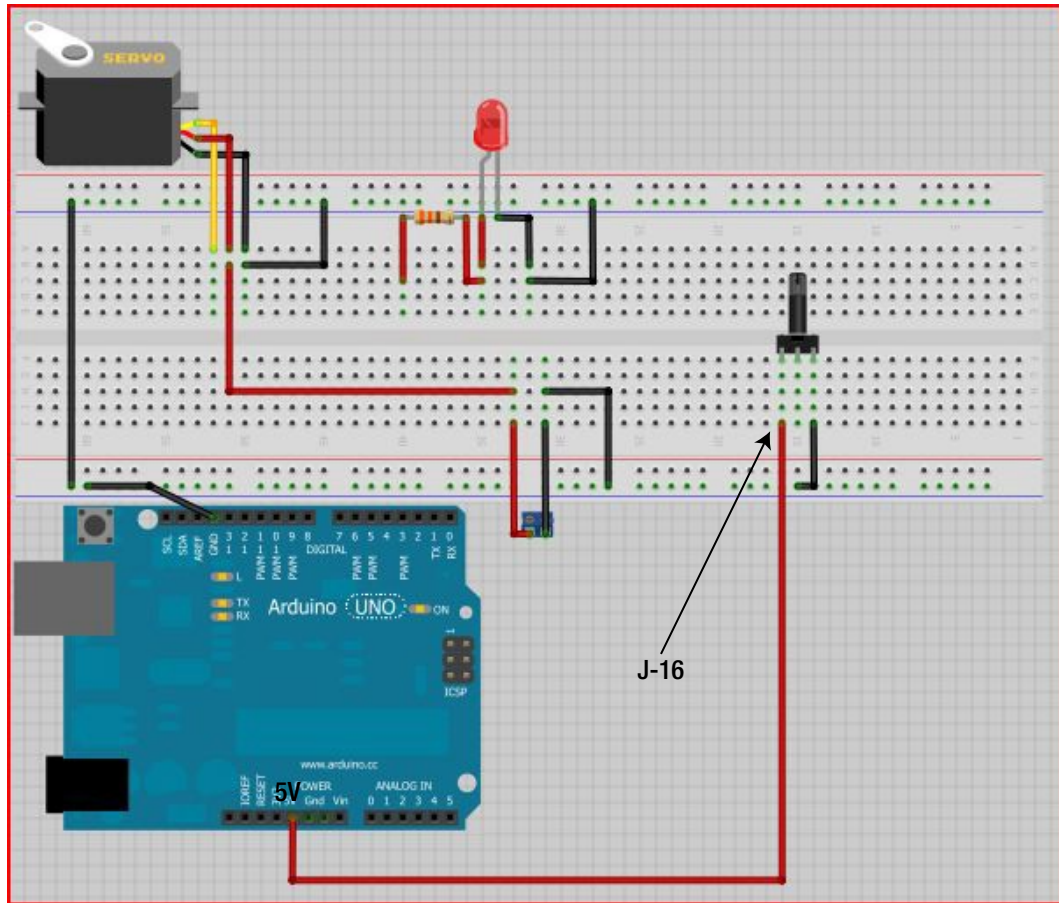

Figure 23-13. Connect the Arduino's 5v power to the potentiometer
12. Connect the Arduino's 5V power to the other side of the potentiometer by adding a jumper wire from +5V on the Arduino to J-16. We used a red wire, but any color is fine. Figure 23-13 illustrates this process.